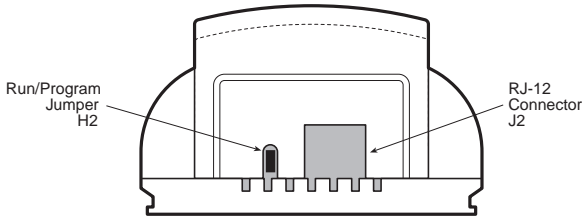

Figure 2-2. H2 Run/Program Jumper Location
2. Ensure that the Run/Program jumper (H2) is installed as shown in Figure 2-2.